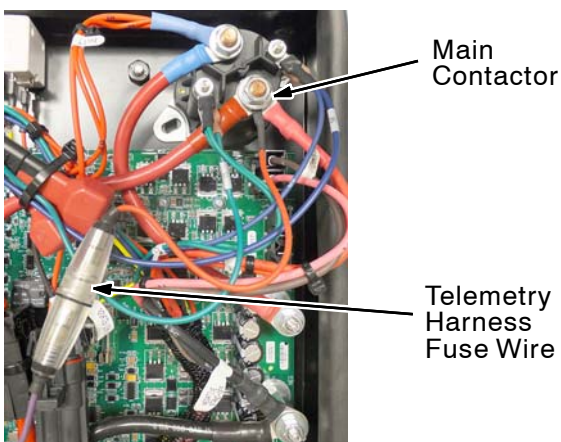

FIG. 29
15. EUROPE MODELS ONLY: Connect the red telemetry harness fuse wire to the main contactor (FIG. 29).